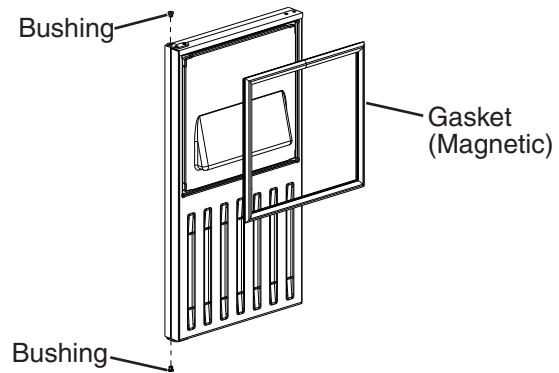

**Fig. 18**
- 6) Fasten the sheet metal bracket to the bottom of the door with the three T2 screws provided. Tighten the screws to the door. See Fig. 18.